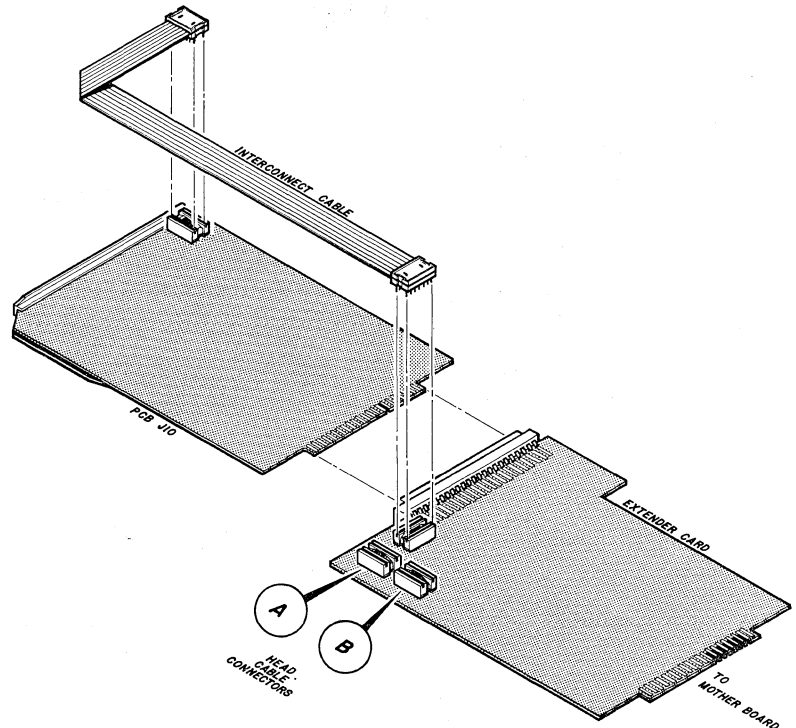

Figure 5-9 PCB J10/EXTENDER CARD INSTALLATION
1. Refer to Figure 5-9. Install the extender card between the J10 PCB and the Motherboard, and install the interconnect cable as shown. Plug the head cable into the appropriate connector on the extender (see specific procedure below), and connect the exerciser and the terminator to the drive's I/O connectors.
3. Connect the head cable to Extender Card connector "A" (Figure 5-9), and position the head carriage electronically to cylinder 100.
6. Connect the head cable to Extender Card connector "A" (Figure 5-9), and position the head carriage electronically to cylinder 105.
9. Connect the head cable to Extender Card connector "B" (Figure 5-9), and position the head carriage electronically to cylinder 100.